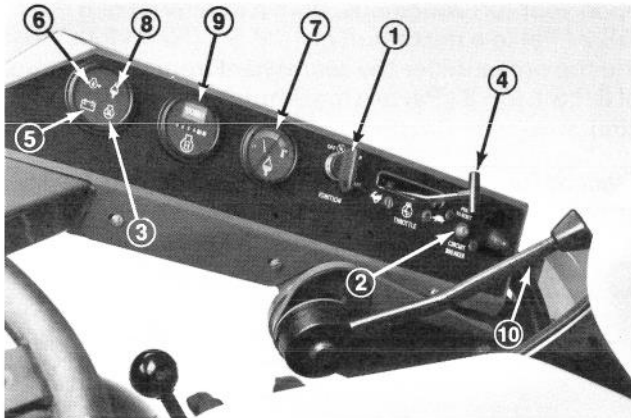

Figure 17
IGNITION KEY SWITCH (Fig. 17)
GLOW PLUG INDICATOR LIGHT (Fig. 17)
THROTTLE CONTROL (Fig. 17)
BATTERY CHARGING INDICATOR (Fig. 17)
ENGINE OIL PRESSURE INDICATOR (Fig. 17)
COOLANT TEMPERATURE GAUGE & INDICATOR (Fig. 17)
HOURLY METER (Fig. 17)
STEERING ARM HEIGHT SELECTOR LEVER (Fig. 17)
CIRCUIT BREAKER (Fig. 17)
5. Immediately turn ignition key to START position (Fig. 17). Release key immediately when engine starts and allow it to return to ON position. Move throttle control to SLOW position.